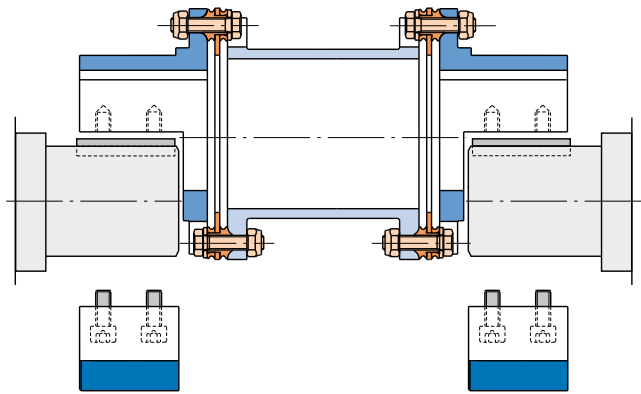

Fig. 95
- Place the coupling from above onto the shafts and partly assemble with the split shells (Fig. 95).